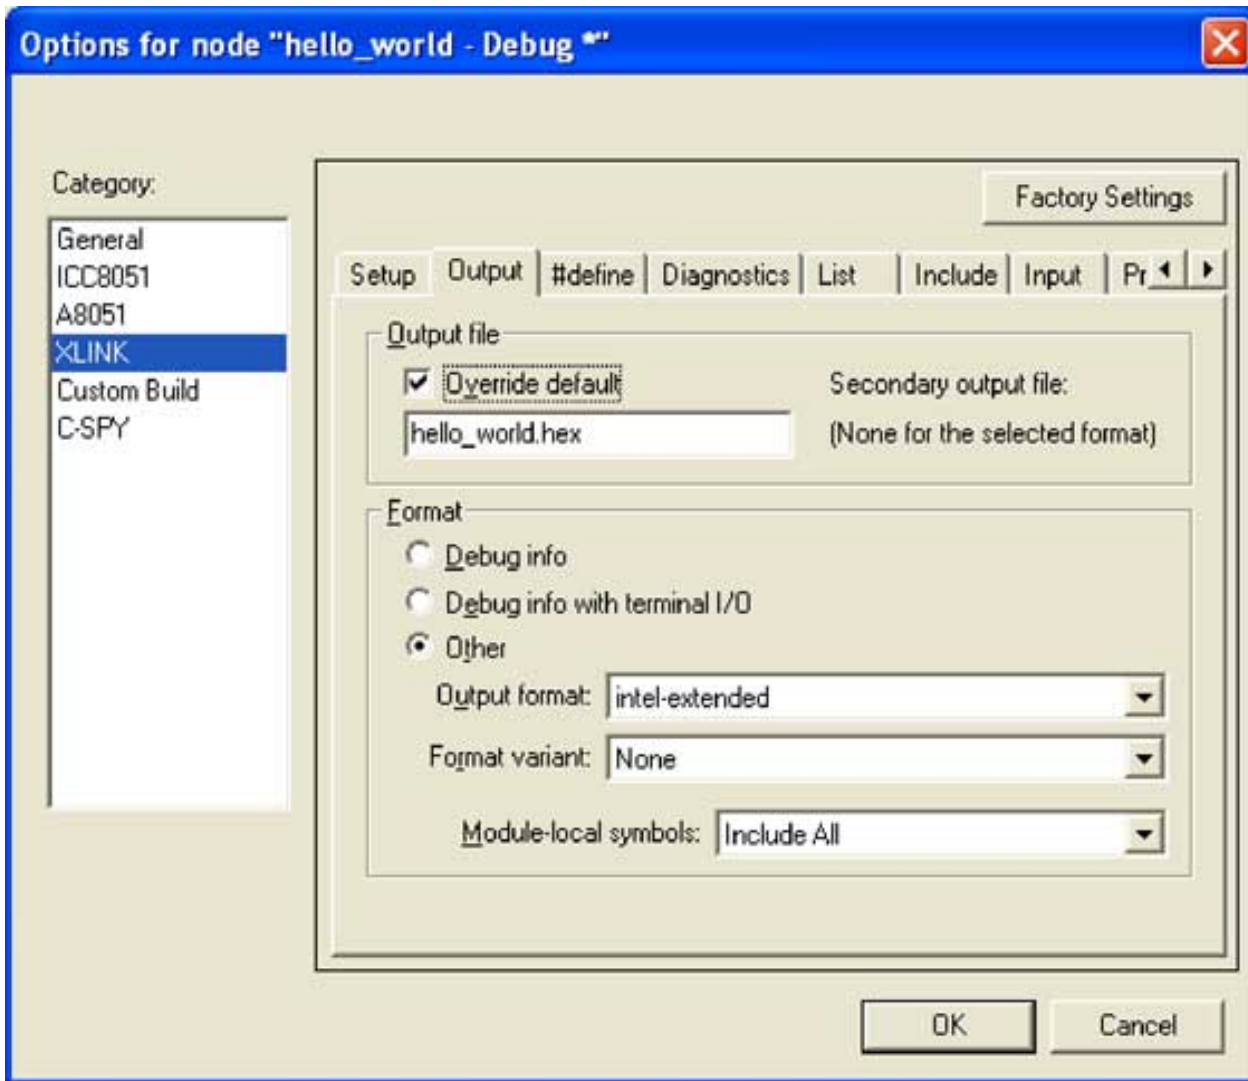

Figure 2. Selecting the XLINK Output options for a new IAR 8051 project.
- In the **Format** group, enable **Other** and select **Intel Extended** from the choices. Refer to **Figure 2** for the details.